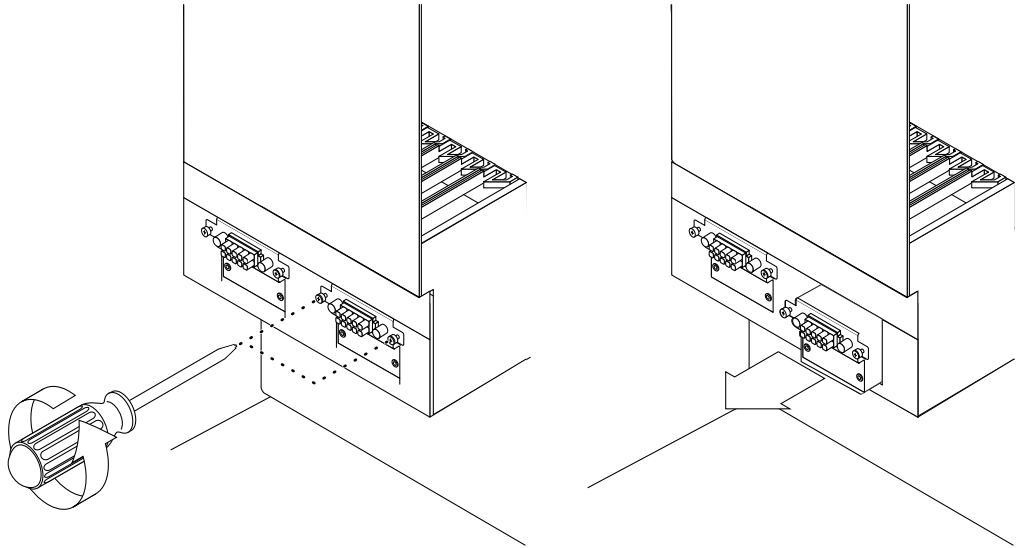

FIGURE 11-11 Removing the Power Distribution Unit
- 6. Carefully reach into the chassis from the front and unscrew the two captive screws that secure the power distribution unit to the chassis (FIGURE 11-11).**
2. Tighten the two captive screws to secure the power distribution unit to the chassis (FIGURE 11-11).